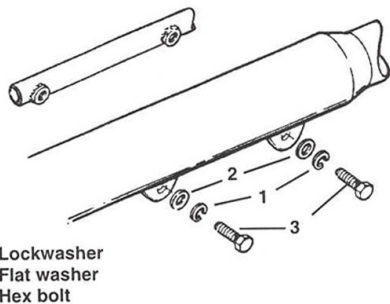

Figure 5
2. See Figure 5. Remove 3/8-16 hex head bolts, flat washers, and lock washers through muffler support tube.
4. See Figure 5. Insert 3/8-16 x 2-1/2 in. hex head bolts, 3/8 in. flat washers and 3/8 in. lock washers through muffler support tube. Screw the bolts into the swing arm bracket stock mounting holes. Do not tighten at this time.